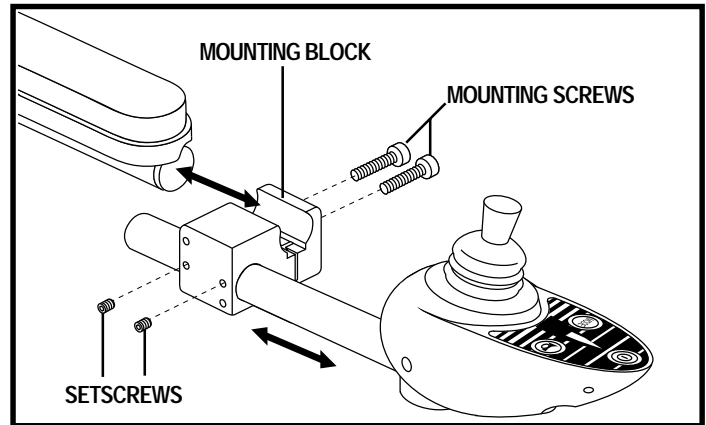

Figure 17. Controller Position - Mounting Block
5. Loosen the mounting screws in the controller mounting block. See figure 17.